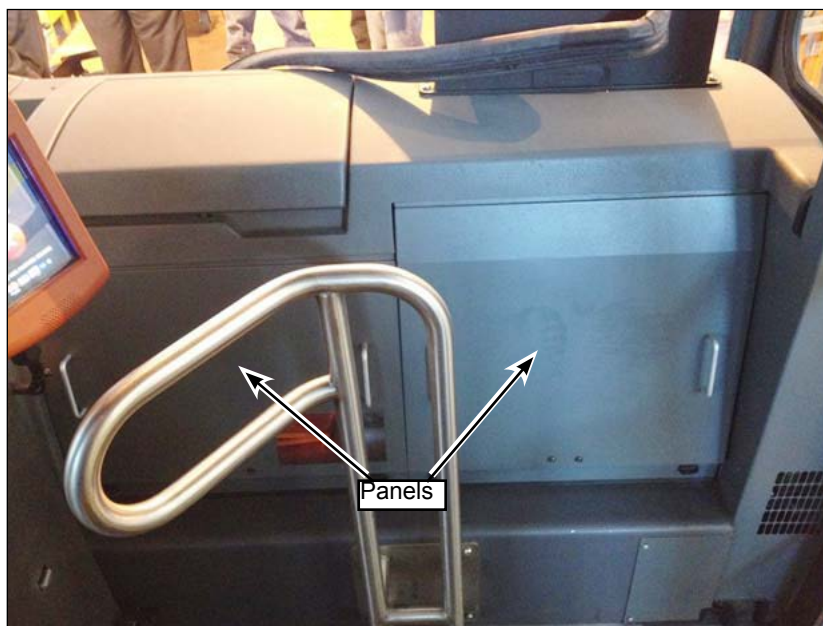

Figure 32 - Install Bottom Dash Pannels
- 1.33. Reinstall the two bottom dash panels (see Figure 32).